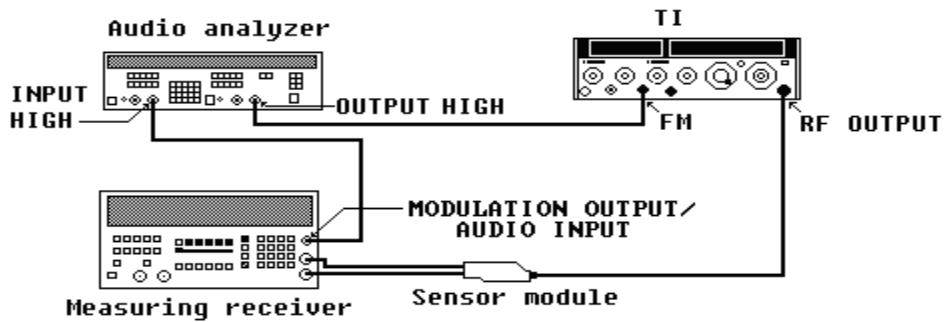

Figure 8. FM - equipment setup.
- (1) Position controls as listed in (a) through (e) below:
- (2) Connect equipment as shown in figure 8.
(6) Connect equipment as shown in figure 8.
(7) Position controls as listed in (a) through (j) below.